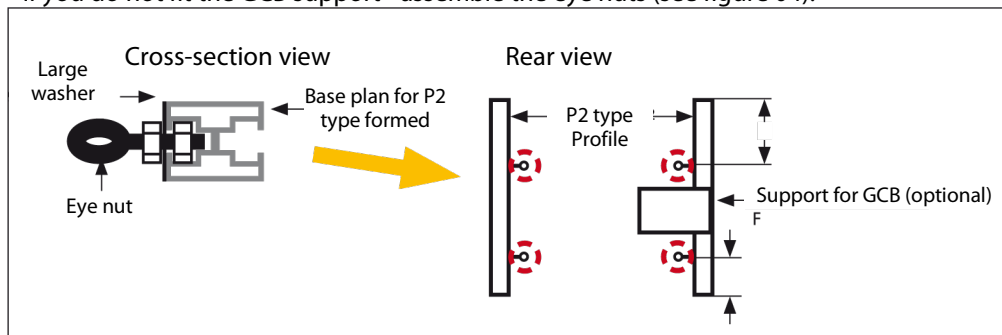

Figure 04
For this step, you will need four eye nuts (see figure 04, red circles), four L 8 mm dia plain washers, eight HU M8 nuts and two P2 type formed sections.
- If you do not fit the GCB support - assemble the eye nuts (see figure 04).